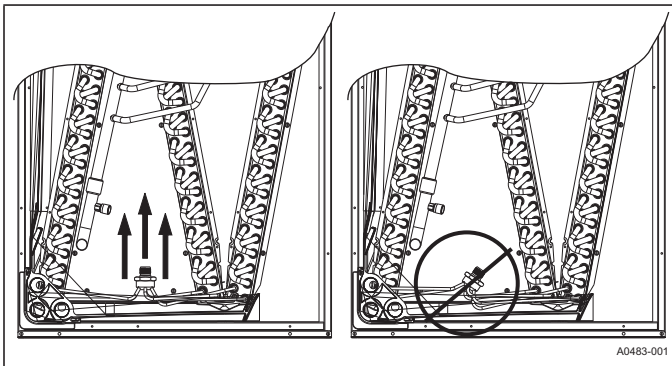

FIGURE 15: Recommended Distributor Adjustment
2. Distributor position must be adjusted to allow the preformed liquid line assembly to properly line up with the hole in the tubing access panel. Raise the distributor body approximately 2" toward the top of the coil or what would be the top of the coil if coil was in the upflow position. See Figure 15. Adjust as necessary.